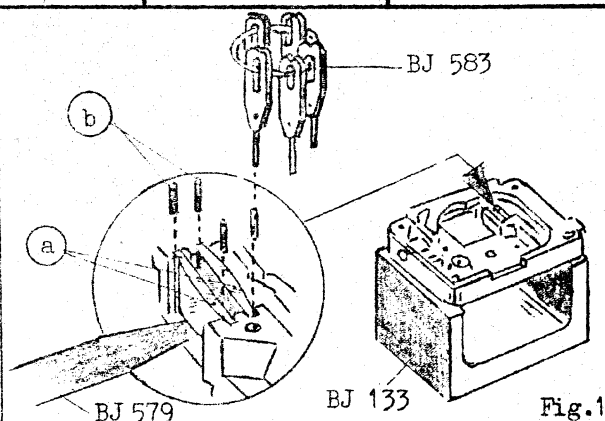

Fig.1
1.1 Collecting lenses (fig. 1)